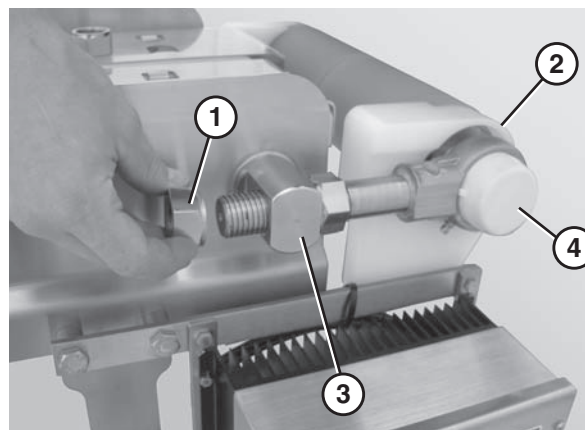

Figure 66
- Remove the back nuts (**Figure 66, item 1**) on both idler tail shafts.
- Slide the idler tail assembly (**Figure 66, item 2**) out of the take up blocks (**Figure 66, item 3**).
- Remove the bearing covers (**Figure 66, item 4**).